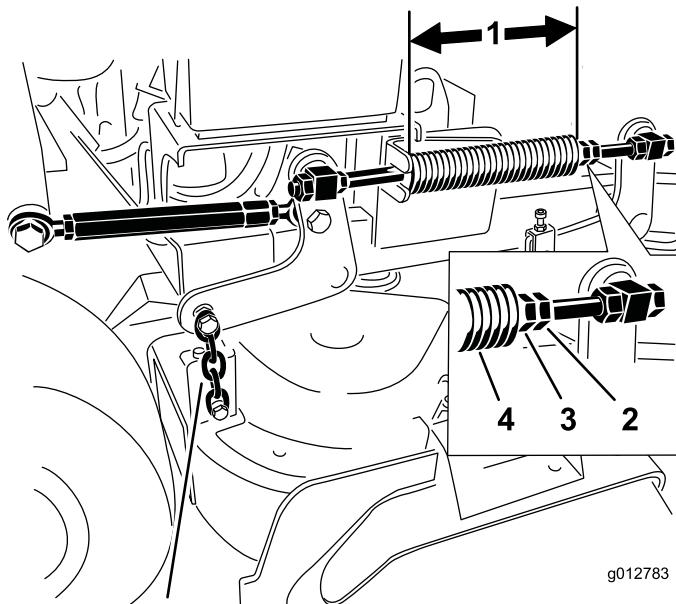

Figure 88
2. Check the length of the compression spring. Nominal length is 11-1/8 inches (28.2 cm) for 36 inch mower decks and 10-1/8 inches (25.7 cm) for 40 inch mower decks (Figure 88).
3. Adjust this distance, by loosening the spring jam nut and turning the nut in front of each spring (Figure 88).
4. Lock the nut into position by tightening the spring jam nut (Figure 88).